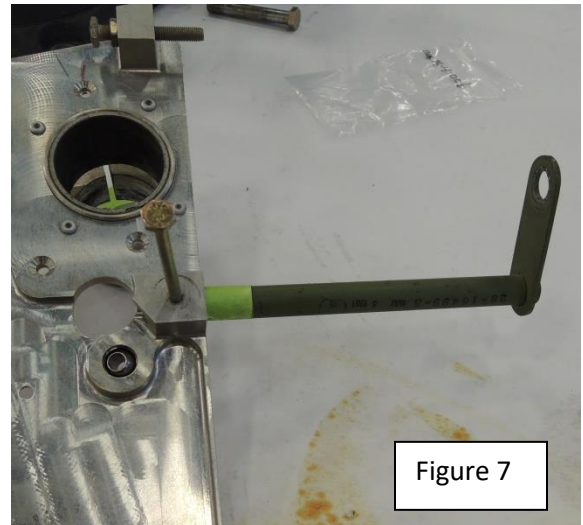

Figure 7
11. Insert the original cable support assembly (10) (figure 4) into the mounting block, install a bolt to locate the hole, and use masking tape to indicate the installed depth of the support assembly, (figure 7)